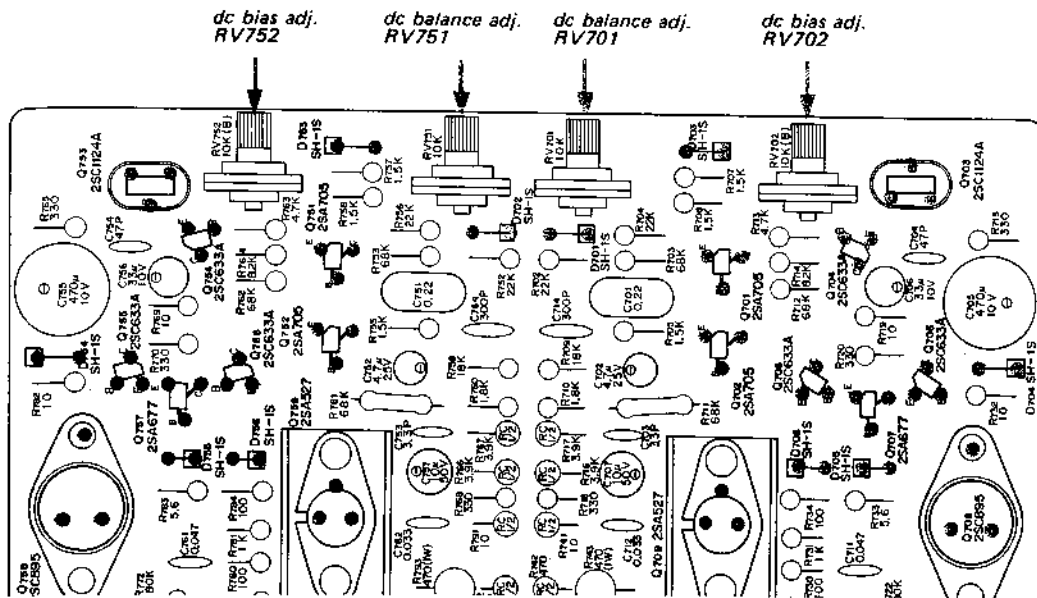

Fig. 3-14. Parts location
1. Set the semifixed resistors (Fig. 3-14) on the power-amplifier board as follows: